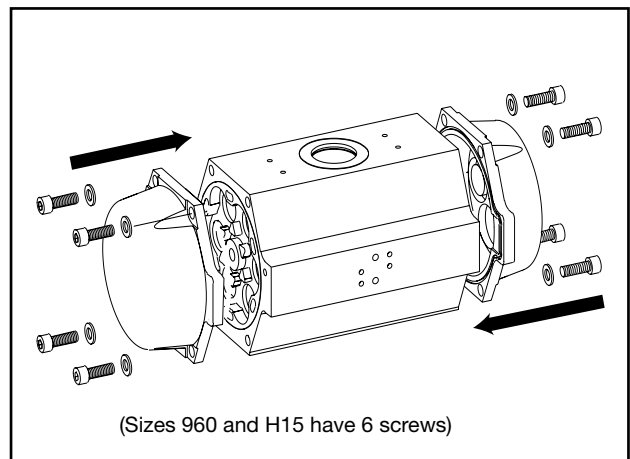

**Fig. 7 Mounting an Actuator to the Valve**
- c) remove screws in the sequence 1-4 (Fig. 7) by each only 1 cm. That's important for an even load during the relaxation process of the endcap.